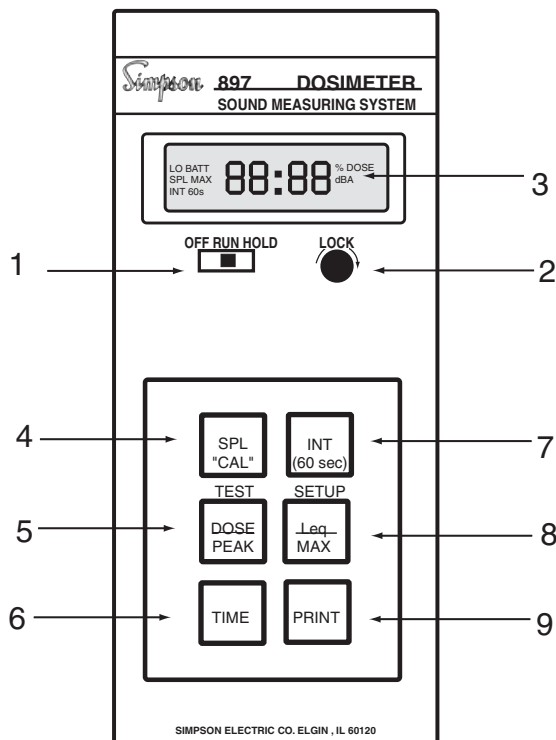
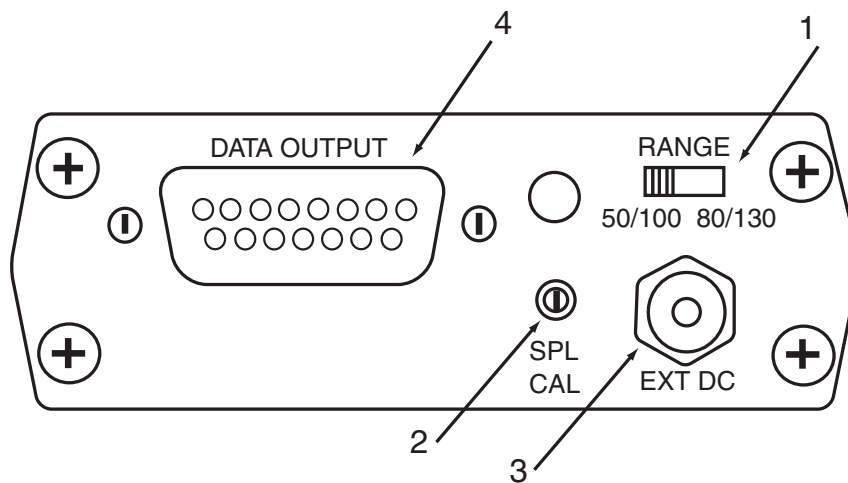

Figure 4-1. Front Panel
Figure 4-2. Top Panel
All front panel operating controls are described in Table 4-1 and shown in Figure 4-1. Top panel adjustments, controls and connectors are described in Table 4-2 and shown in Figure 4-2.
- a. Press and hold the “Setup” button (see Figure 4-1) while switching the “OFF-RUN-HOLD” switch (see Figure 4-1) from “OFF” to “RUN.”
- c. Once the desired parameter is displayed, press the “Test” button (see Figure 4-1) to select the available choices of that parameter. The digit or digits which will change as a result of pressing the “Test” button will flash. The display prompt for each function is given within the parenthesis.
- d. Once all the parameter choices are made, switch the "OFF-RUN-HOLD" switch (see figure 4-1) to "OFF" for three seconds and all changes will be saved in the internal memory. It is unnecessary to go through the entire sequence; you may stop and switch the power "OFF" once all needed changes are made. All of the above parameters, with the exception of the Real-Time